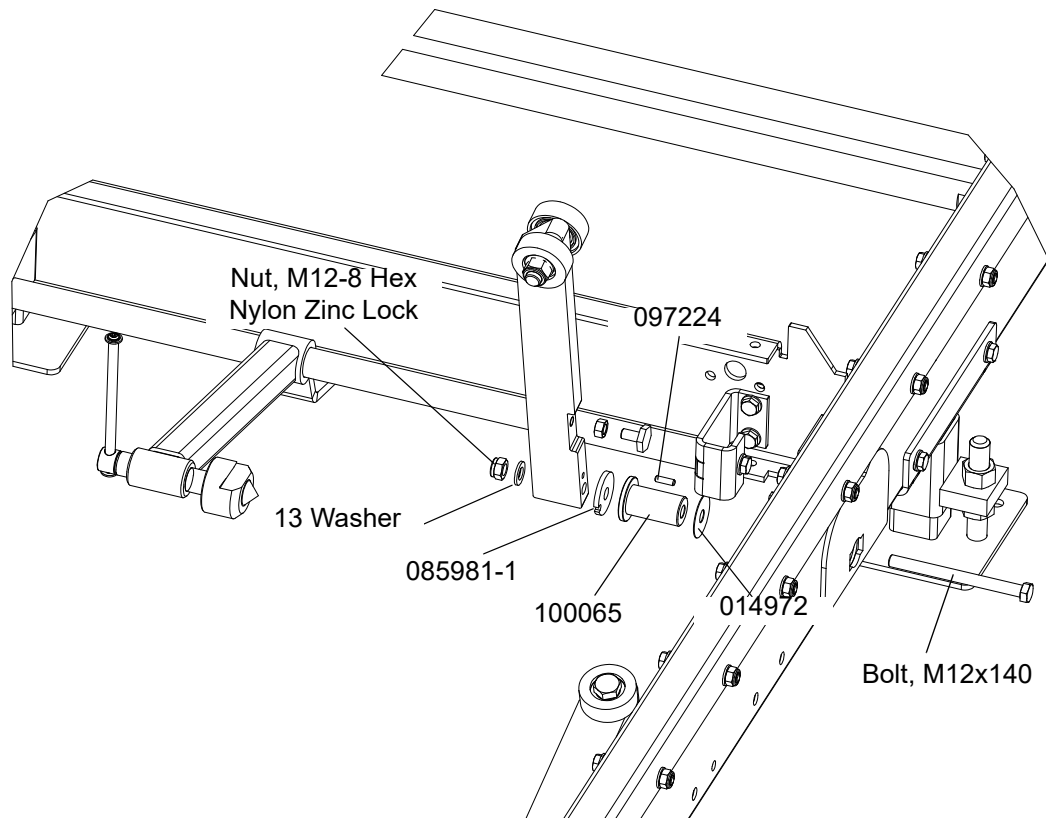

FIG. 2-7
7. Install the log side supports as shown in Figure 2-7. Tighten the nuts so that the side supports can be moved with little resistance. Adjust side support, See Section 5.11.
See figure 2-7.